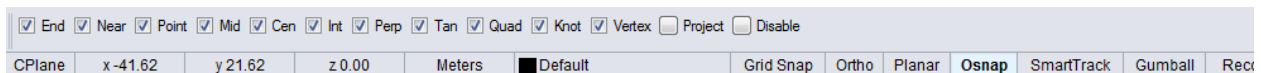

Figure 60: Rhino Osnap bar
1. Click on **Osnap** (Object Snap) at the bottom of the screen (Figure 60) to highlight it. Make sure that **End, Near, Point, Mid, Cen, Int, Perp, Tan, Quad, Knot** and **Vertex** are **checked**, as shown below. **Grid Snap** may be turned off.